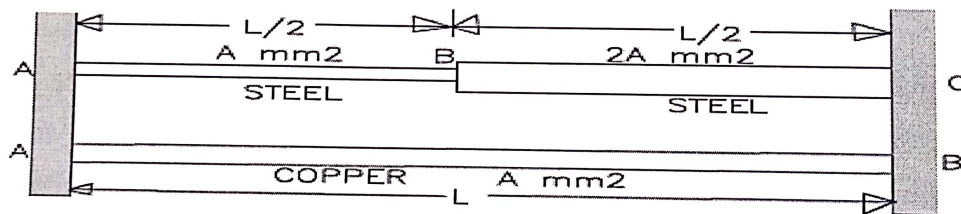

Figure Q1: Composite bar of Steel and Copper Member
- a) A composite bar is made up by connecting a steel member and a copper member rigidly fixed at their ends as shown in Figure Q1. The cross-sectional area of the steel member is $A \text{ mm}^2$ for half of the length and $2A \text{ mm}^2$ for the other half of the length; while that of copper is $A \text{ mm}^2$. The coefficient of expansion of steel and copper are $8.3 \times 10^{-6}/\text{K}$ and $10.79 \times 10^{-6}/\text{K}$; while the elastic moduli are $500 \times 10^3 \text{ N/mm}^2$ and $250 \times 10^3 \text{ N/mm}^2$ respectively. Determine the stresses induced in both the members when the composite bar is subjected to a rise in temperature of t degrees (10 Marks).